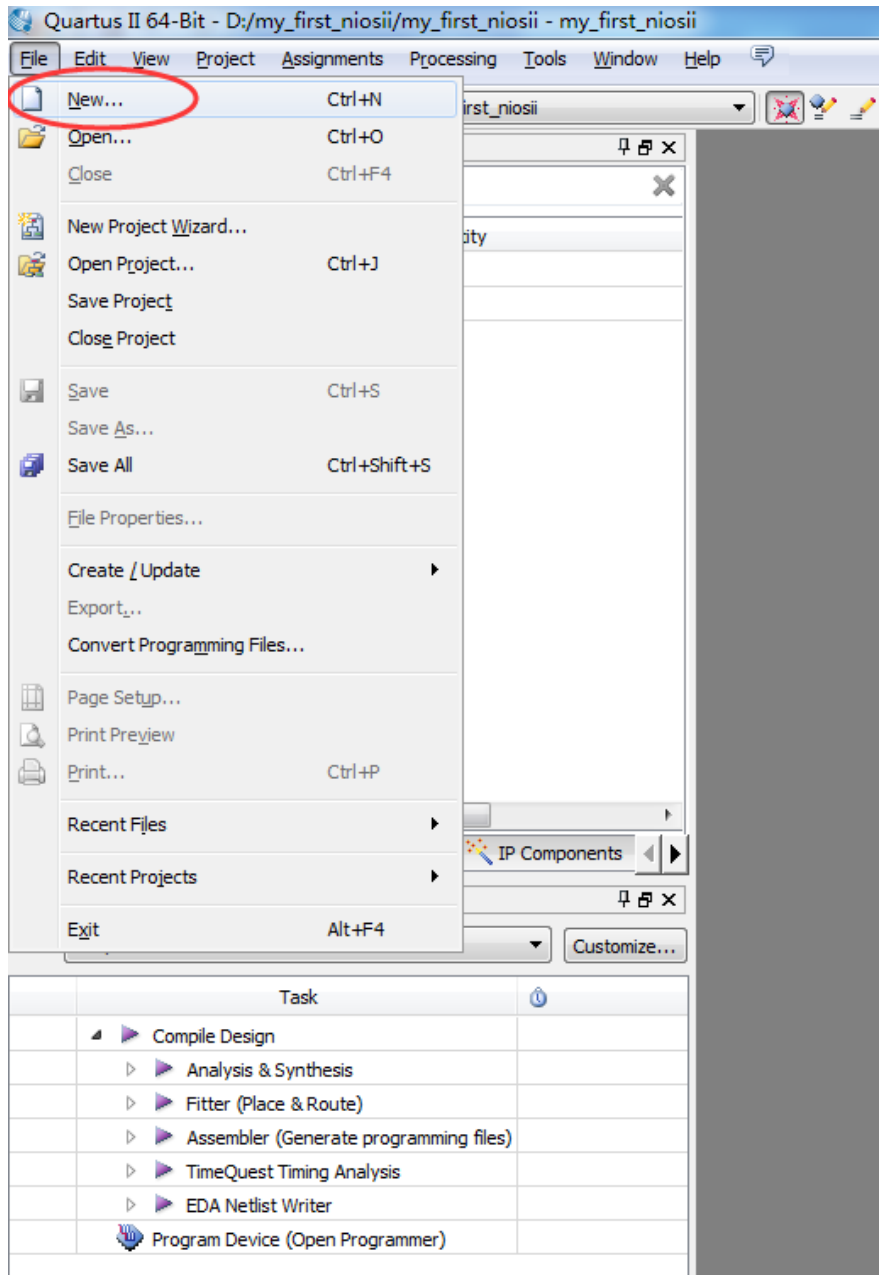
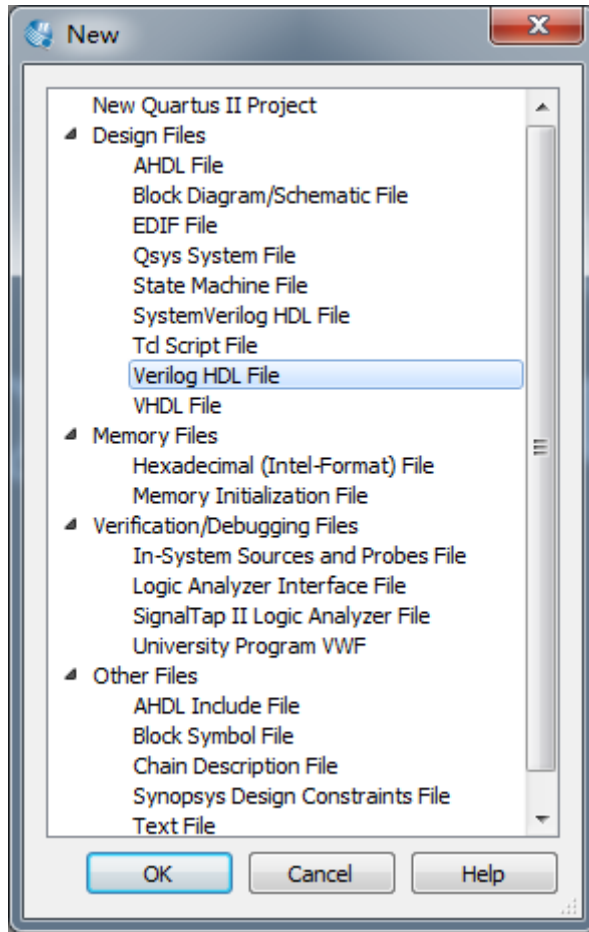

Figure 1-35 Select File -> New
Figure 1-36 Add new Verilog HDL File
25. Choose **File** -> **New** to open the dialogue and be prepared to add new files, as shown in **Figure 1-35** and **Figure 1-36**.